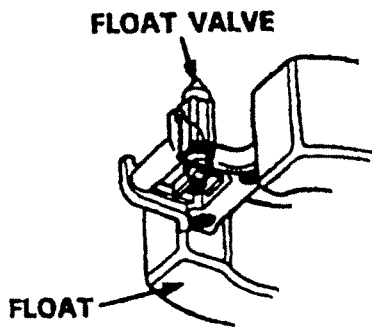

Fig. 32-9. Float and Valve Assembly
Locate the float (8) and float valve (7) and install the float pin (5). The components are shown disassembled in Fig. 32-9.